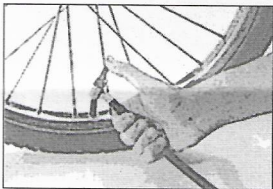
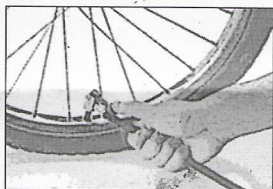

Fig. 1
Fig. 2
1. Place connector on input valve stem (Fig.1) and push down. Close thumb latch connector (Fig.2). Caution: Make sure the connector always touches the core of tire valve stem.